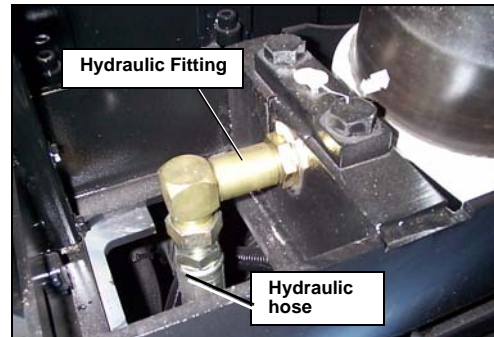

Figure 125. Hydraulic fitting
6. Disconnect the hydraulic hose, then remove the fitting (Figure 125. "Hydraulic fitting").